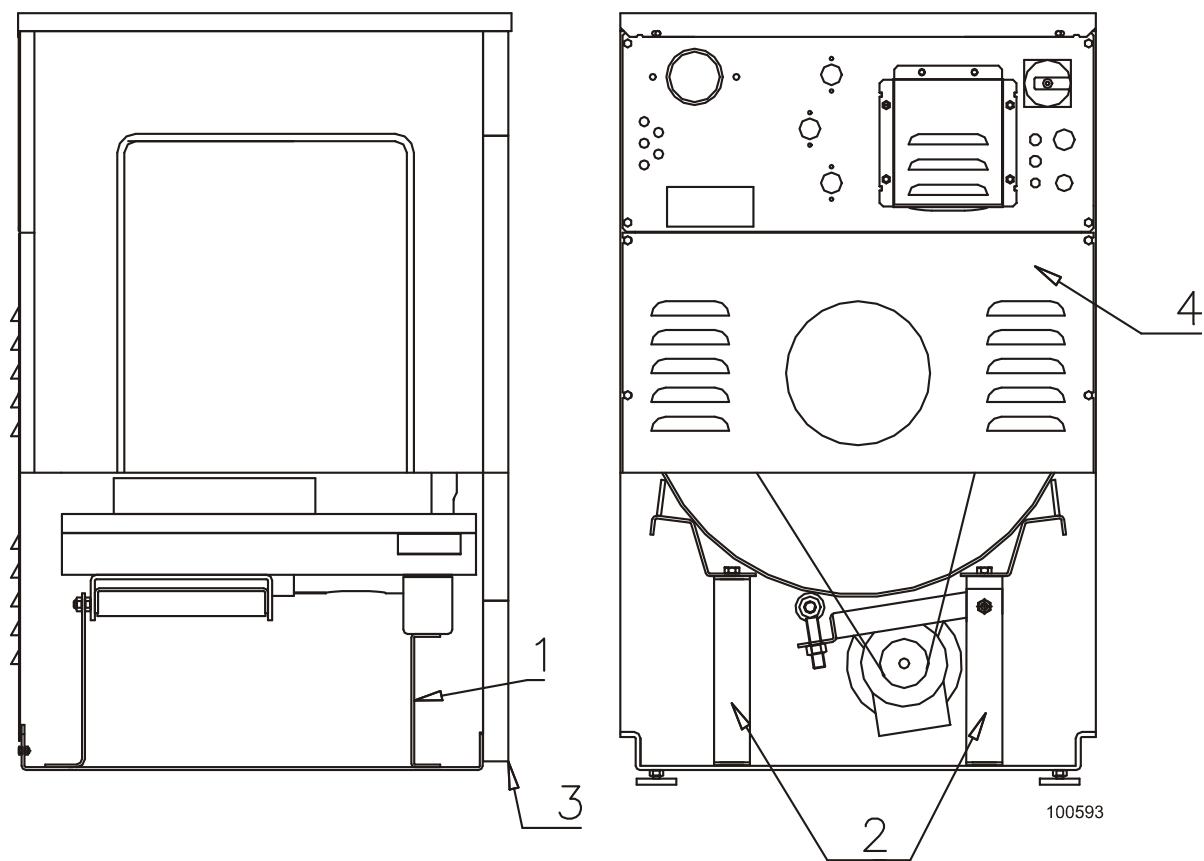

Fig.4.4. Transporting brackets
- Before placing the machine on its place, remove the packaging, loosen the rear panel (see fig.4.4., pos.4) and the service panel (pos.3). Remove the four bolts, which holds the machine on the wooden pallet. Lift up the machine carefully, take care not to damage the machine components.
1. Remove shipping bracket front, fig.4.4. pos.1.
2. Remove shipping bracket rear right, fig.4.4. pos.2.
3. Remove shipping bracket rear left, fig.4.4. pos.2.
After removing the shipping brackets put the service panel, fig.4.4. pos.3 and the rear panel, fig.4.4. pos.4 back on the machine. Keep the shipping brackets pos.1, 2 for possible future transportation.